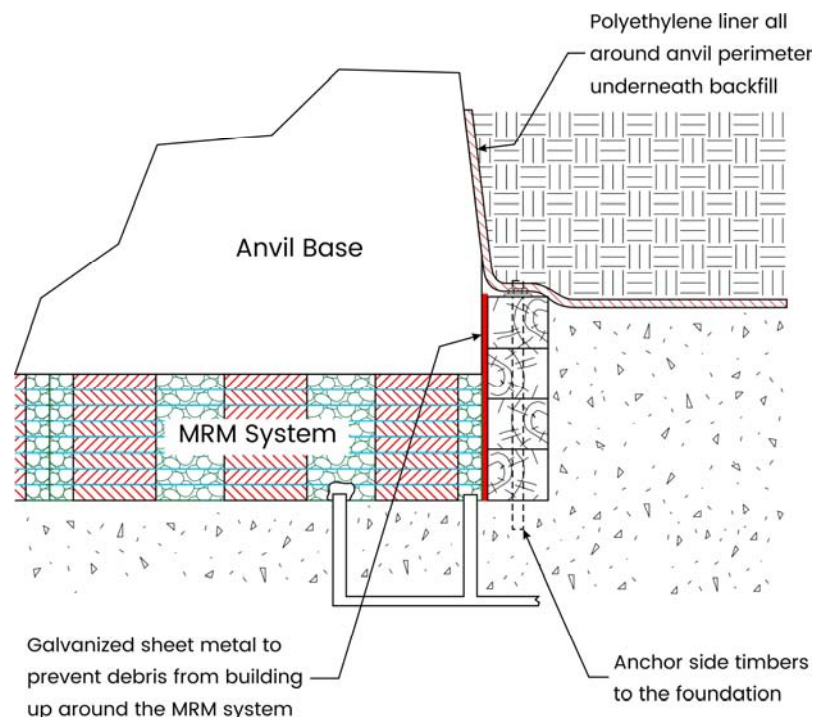

FIGURE 4
8. For foundation designs using backfill See Figure 4, extra precautions are highly recommended: